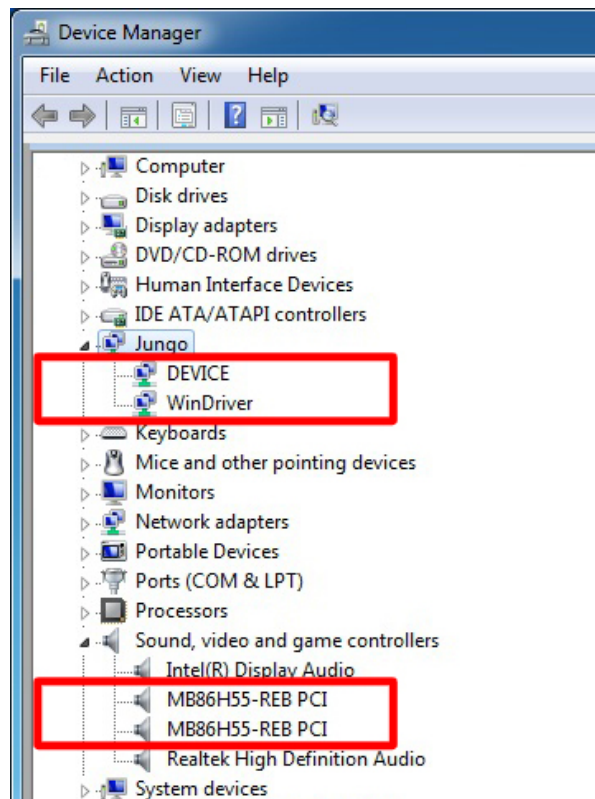

Figure 1-9: Device Manager – 64-bit OS
- Step 7:** Check the device manager in the Windows control panel to ensure the driver (MB86H55-REB PCI, DEVICE and WinDriver) has been properly installed. See **Figure 1-9** for the details.